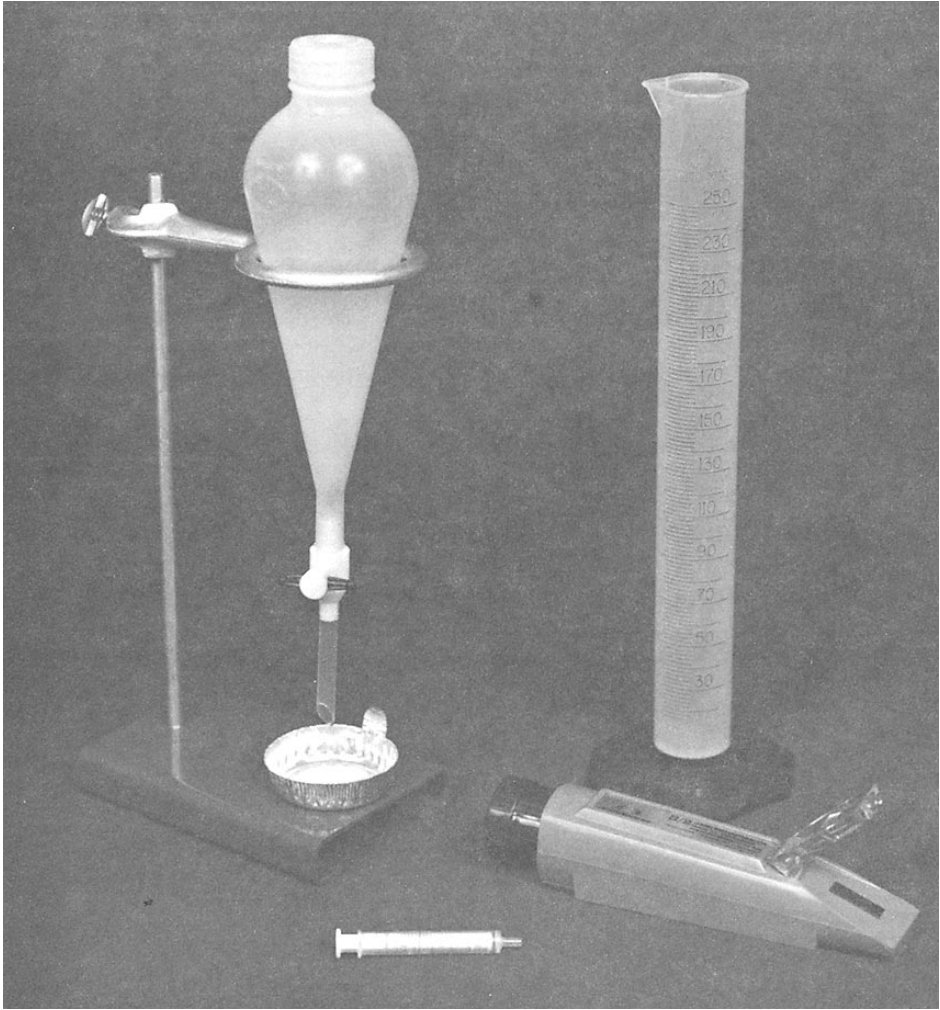

Figure 3-10.—Equipment in a refractometer kit.
The refractometer kit (fig. 3-10) is used to determine the amount of fuel system icing inhibitor (FSII in jet fuels. Although it is small and made of plastic,
1. Set up the ring stand assembly as shown in figure 3-10.
4. Fill the graduated cylinder (fig. 3-10) and the separator funnel about one-third full with the fuel to be tested. Rinse the cylinder and funnel thoroughly to clear them of any foreign material and empty the contents.